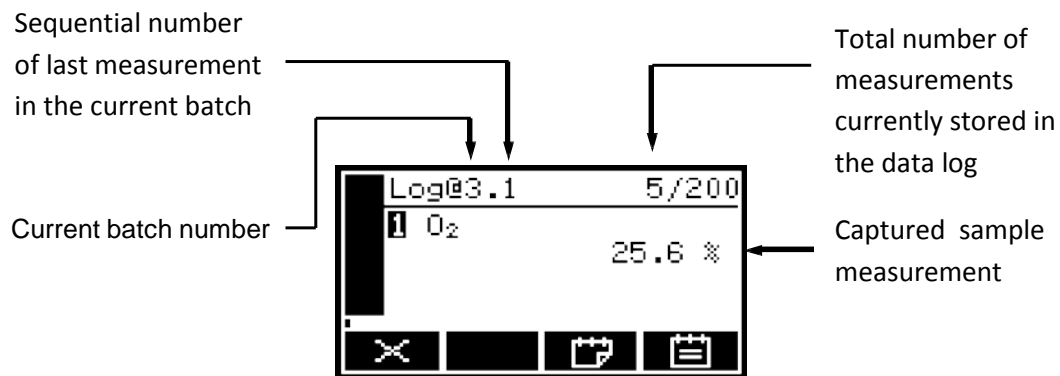

Figure 42 - The Data logging screen
1. Press the  soft key. When you press the soft key, the current sample measurement at the time of the key press is 'captured' (stored in internal memory), and the Data logging screen will then be displayed (see Figure 42).
- With the Measurement screen displayed, press the  soft key. The Data logging screen will then be displayed (see Figure 42).